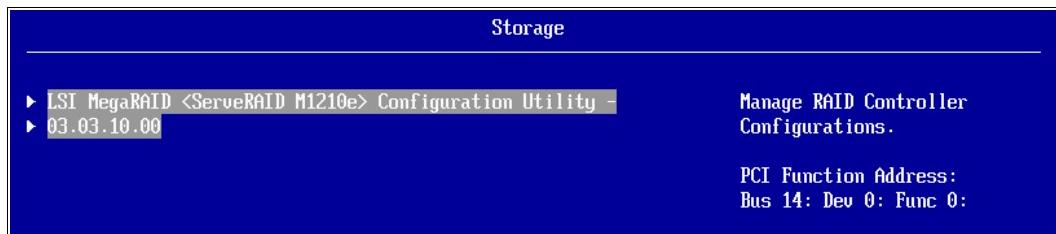

Figure 5-31 Drive Sharing mode enabled displaying primary node raid controller only
- After the system has restarted, access the UEFI menu again by pressing **F1** at the splash screen and then clicking **System Settings** → **Storage**. As shown in Figure 5-31, only a single M1210e controller is now listed. Browsing the controller will show all physical drives in the complex listed under it. The M1210e controller of the secondary node will not be displayed.